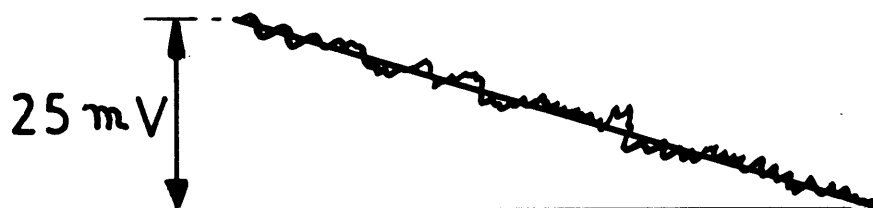

Fig. 3. DC Slope Measurement
- (b) With the test set connected as for 5.9 (a) switch SWF to position 2 and with the oscilloscope on the 300 millivolt d.c. range, measure the d.c. slope of the line ignoring the super-imposed a.c. noise. It should not exceed 50 millivolt, as indicated in Fig. 3.